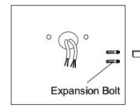

Figure 22
Step 2: Knock the expansion bolts into the wall. (Figure 22)